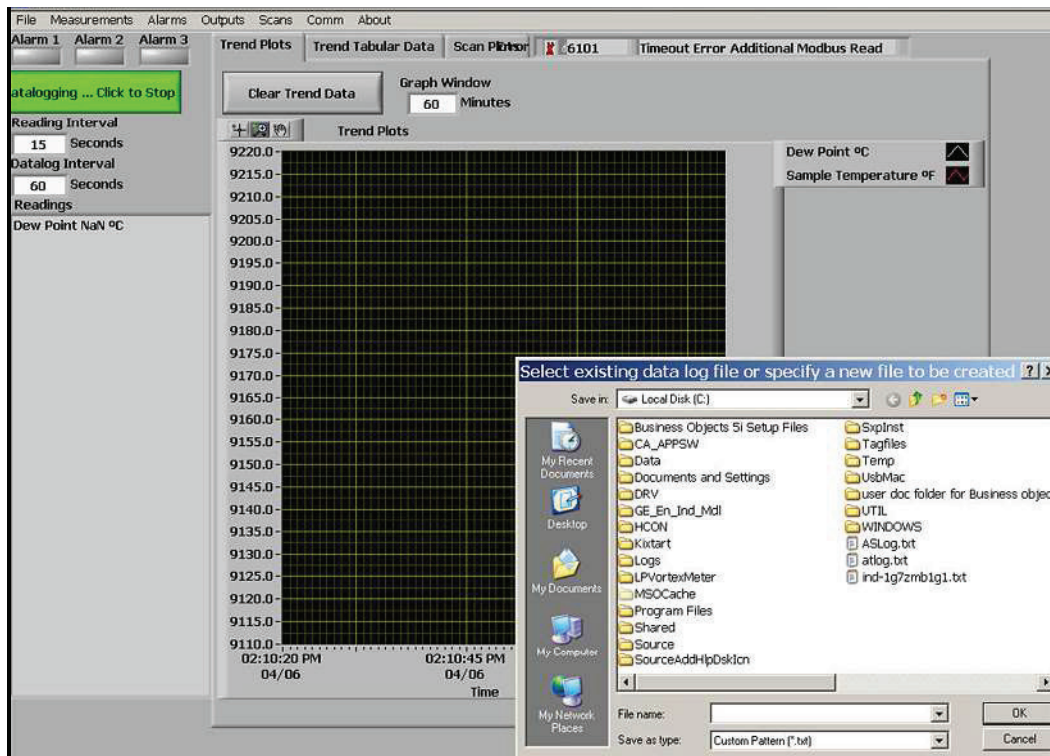

Figure 41: Datalogging with Aurora View
1. In the main view (see Figure 41 below), click on the button Click to Datalog.